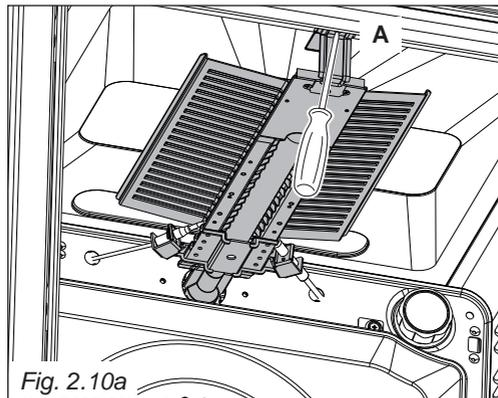

Fig. 2.10a
- Unscrew and remove the burner securing screw "A" (fig. 2.10a).